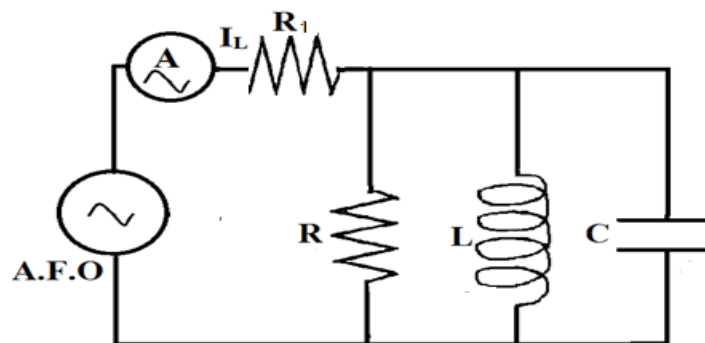

Fig. 2
- 7) Repeat steps 1 to 7 for parallel resonance using Fig. 2.